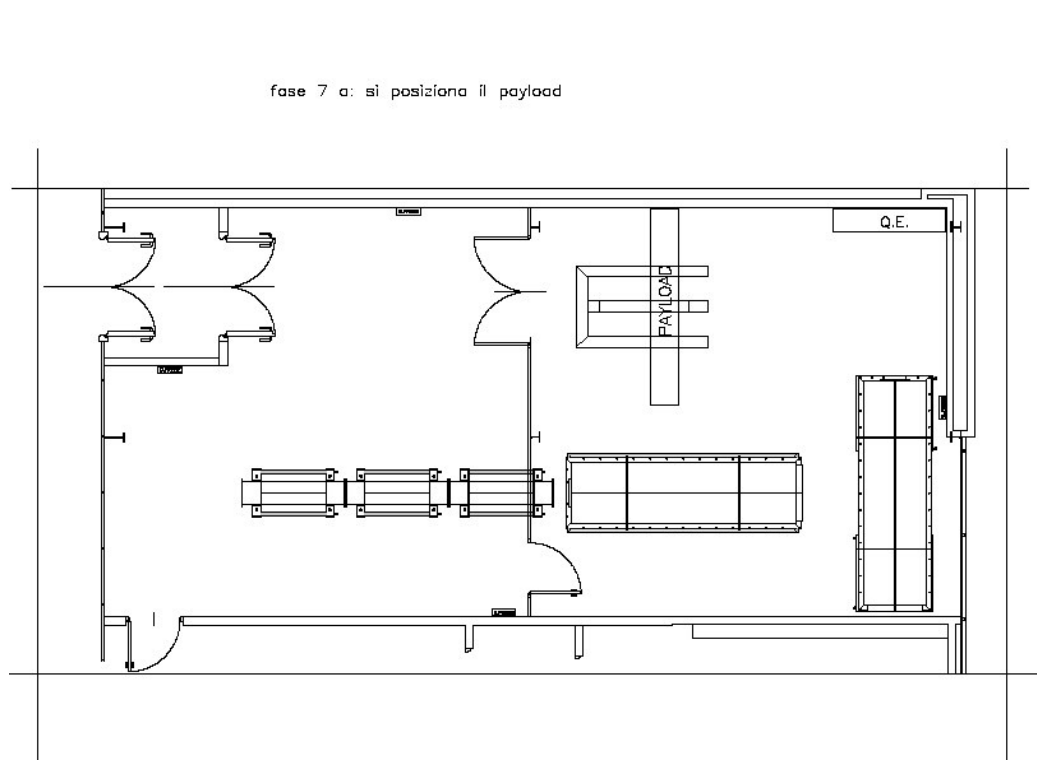
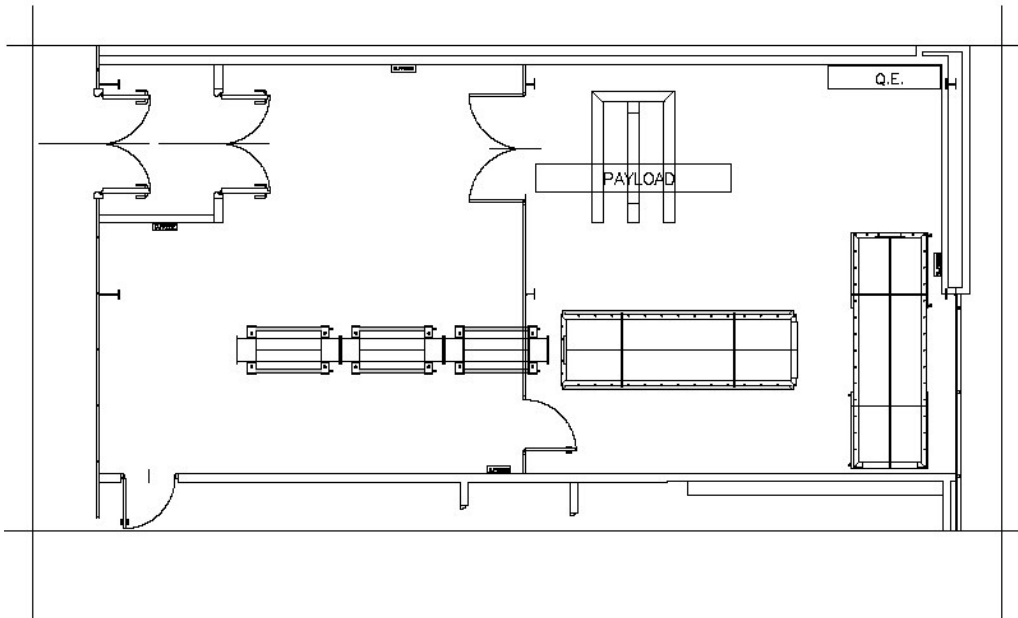
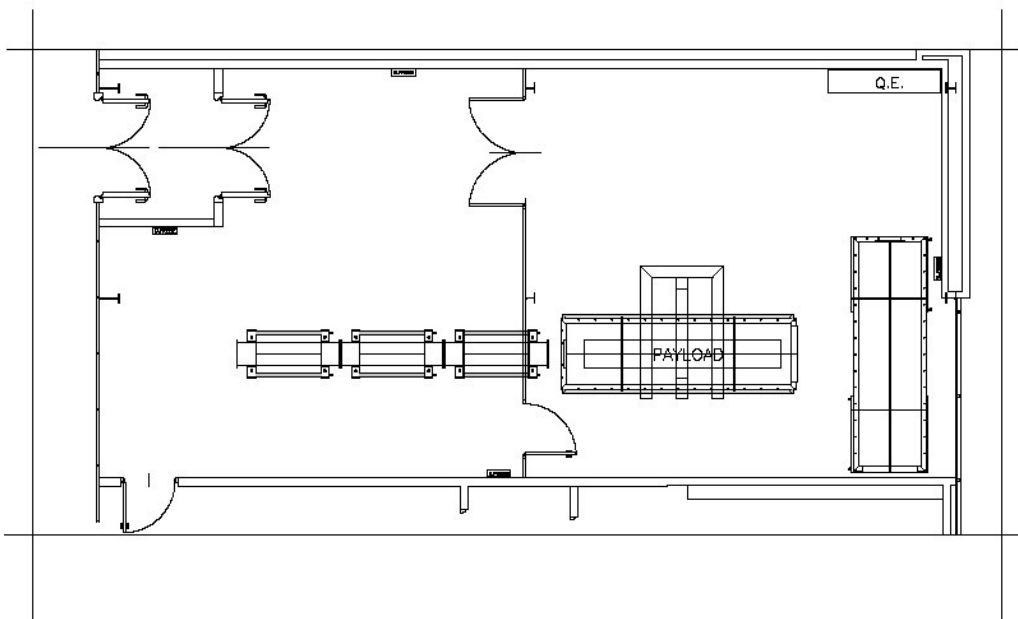

Figure 17: Phase 7a
Figure 18: Phase 7b
Figure 19: Phase 7c
- Phase 7: Set the payload on the optical bench, as shown in Figure 17, Figure 18 and Figure 19.